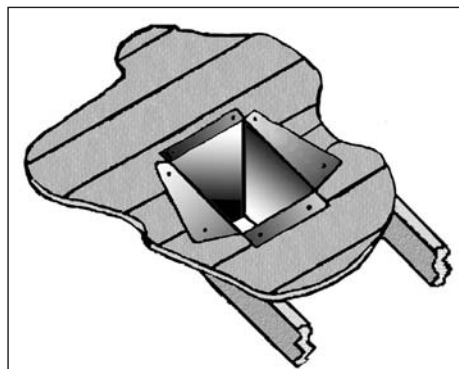

Figure 35: Cathedral Ceiling Support Box Installation.
5. Using tin snips, cut the Support Box from the top corners down to the roof line, and fold the resulting flaps over the roof sheathing (Figure 35). Before nailing it to the roof, run a bead of non-hardening mastic around the top edges of the Support Box to make a seal between the box and the roof. Clean out any combustible material from